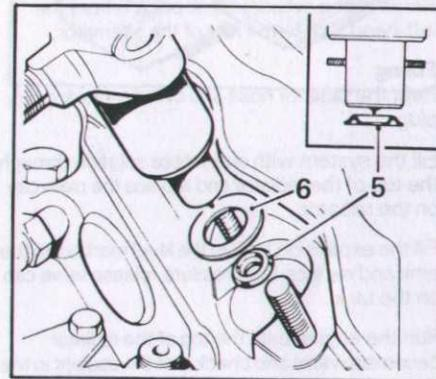

Fig. 5
Remove the two injector retaining nuts (4) and withdraw the injector. Extract the corrugated sealing washer (5) from inside the nozzle heat shield – Fig. 5.